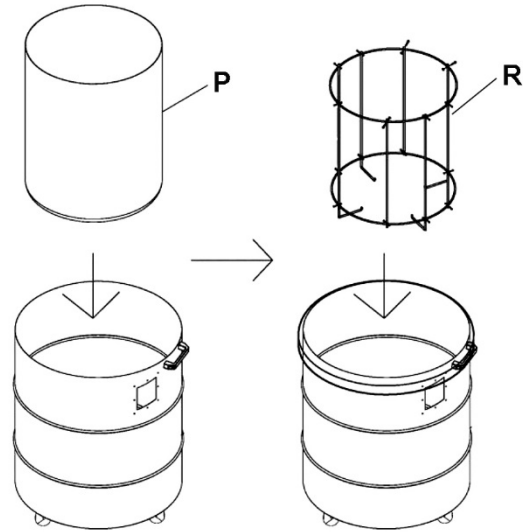

Figure 14
20. Place drum collection bag (P) into drum with its top edge wrapped around top edge of drum. Place bag frame (R) inside bag and press all the way down. See Figure 14.